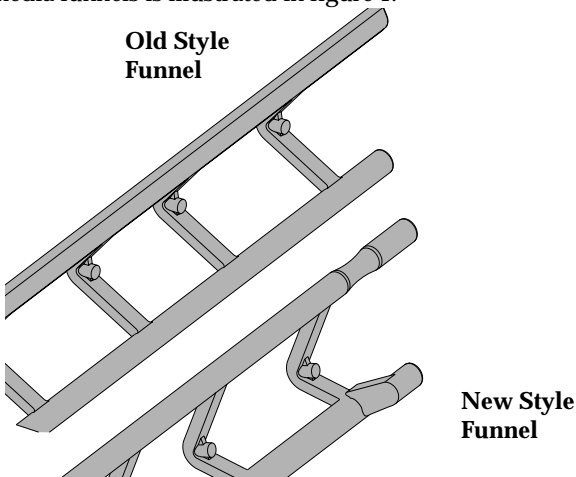
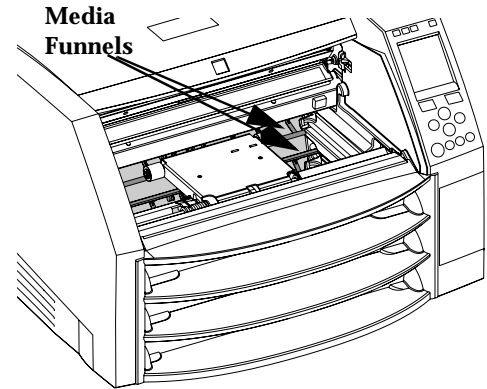

Figure 1
Figure 2
Locate the media funnels, remove supply cassettes if present (see figure 2). There should be two media funnels. The lower one is clearly visible from outside the imager. Look at either end of the media funnels. The difference between the two media funnels is illustrated in figure 1.
- ◆ Locate the media funnels (see figure 2)